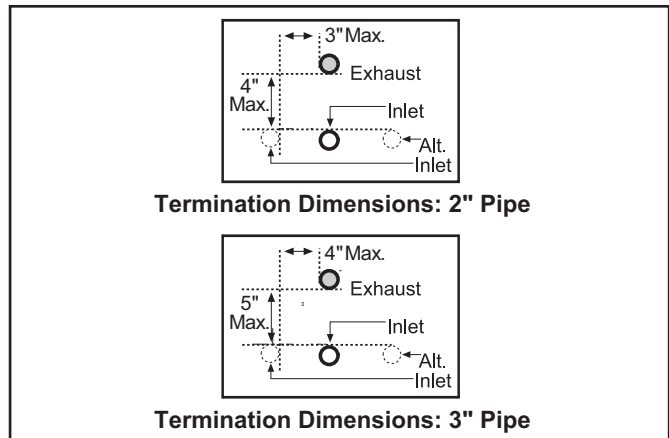

Figure 11.
When venting one water heater, locate the inlet and exhaust terminations according to Figure 11 below. When installing more than one water heater, see Venting Multiple Units on Page 29.
7. Refer to Figure 11 in "Vent Pipe Termination" for standard and alternate vent termination dimensions.